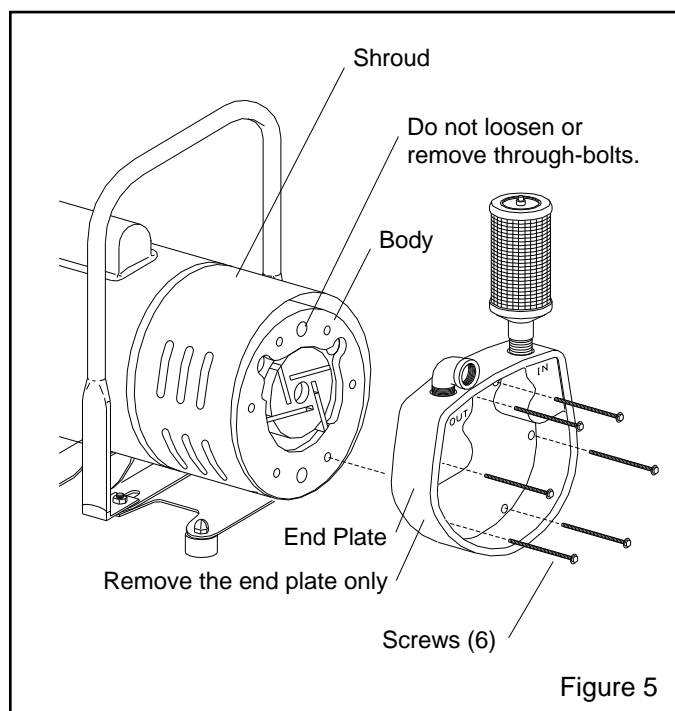

Figure 5
5.4.3 Remove the six bolts holding the end plate to the body, as shown in Figure 5.